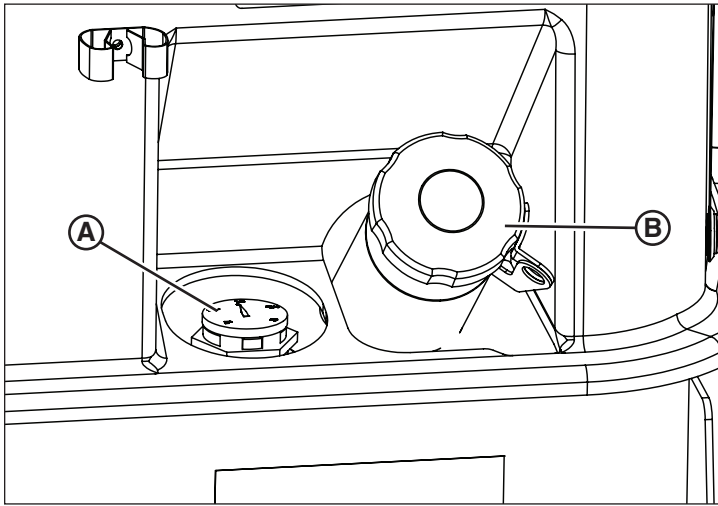

Figure 14
The light tower trailer is equipped with a single fuel tank having a capacity of 50 gallons (189 L). It is also equipped with a float-type fuel gauge (A, Figure 14) which indicates the amount of fuel in the tank. Remove the fuel cap (B) and add fuel to the tank. See **General Fuel Information** in the **Maintenance** section for fuel recommendations.